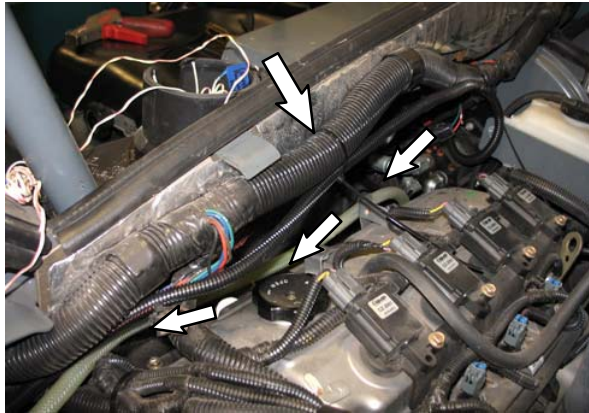

FIG. 6
5. Route the telemetry harness (4) along the main wire harness and to the front of the machine. Use several cable ties (6) to secure the telemetry harness to the main wire harness. (Fig. 6)